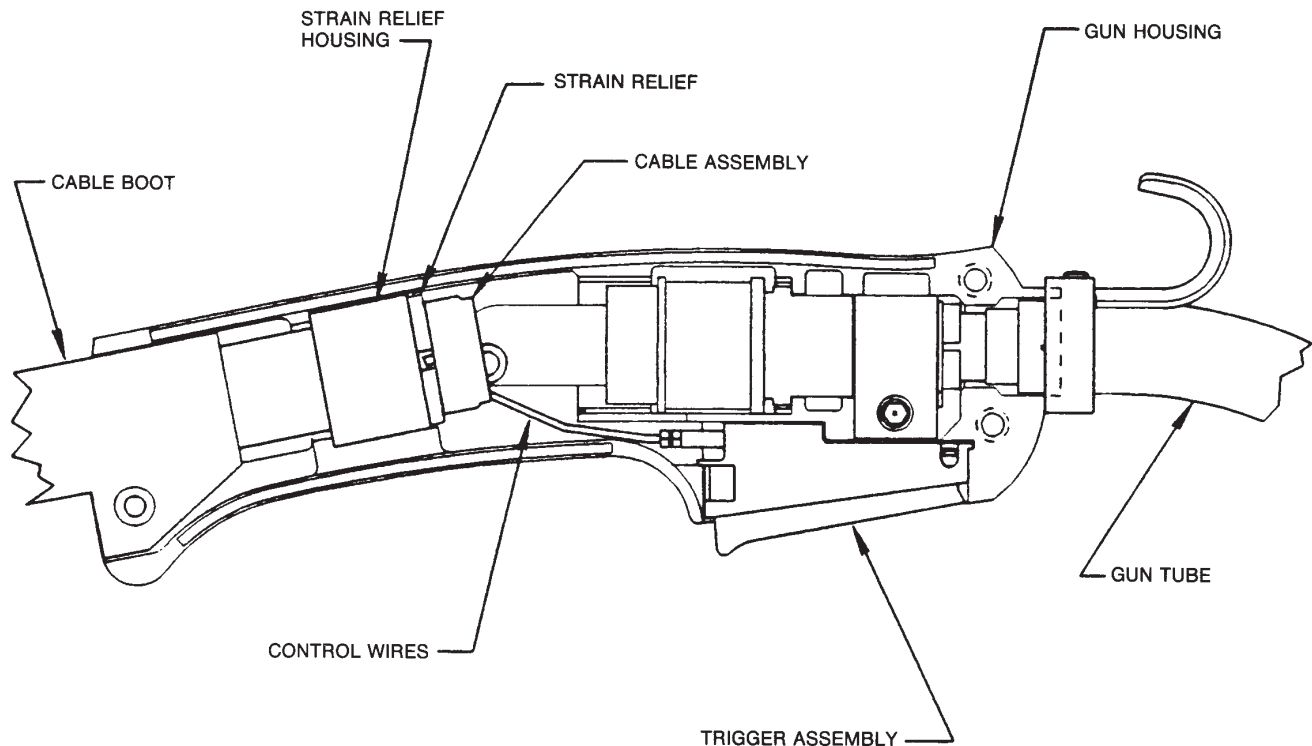

Figure 4
- k. Assemble cable in left side of gun handle. Assemble trigger into the proper handle cavity. Assemble right side of gun handle and tighten the three screws that hold the handle together. Refer to Figure 4.